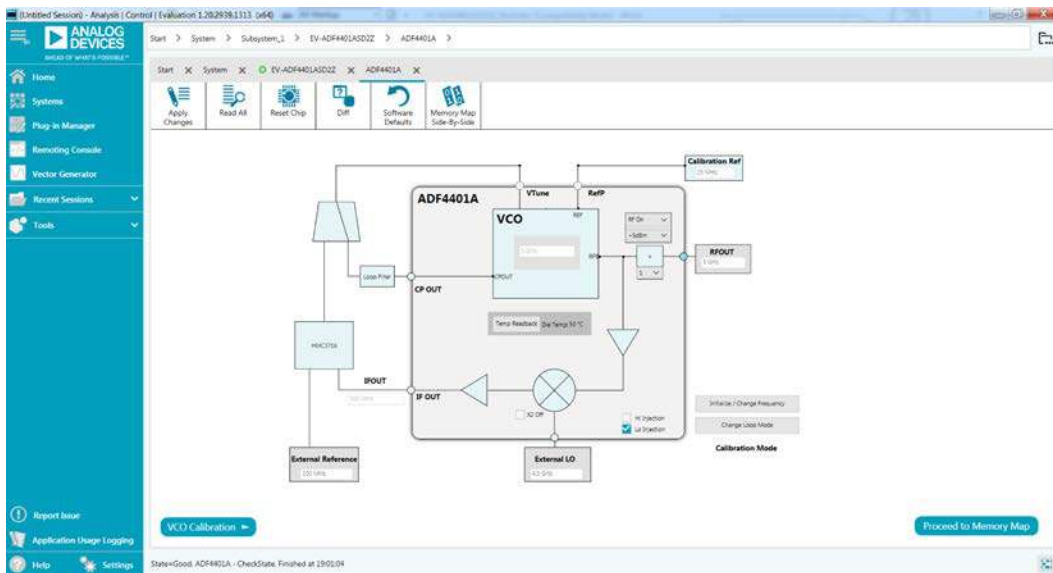
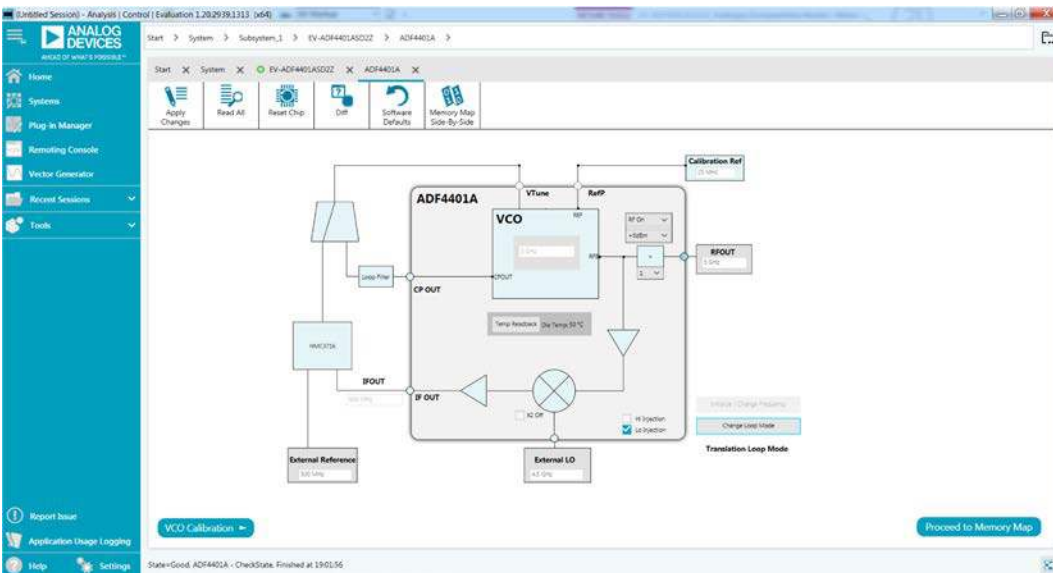

Figure 5. ADF4401A Tab, Main Control Window (Calibration Mode)
Figure 6. ADF4401A Tab, Main Control Window (Translation Loop Mode)
3. Double click the ADF4401A icon in the EV-ADF4401ASD2Z tab to open the main control window in the ADF4401A tab, as shown in Figure 5 and Figure 6.
The main controls in ACE are available in the high level register map shown in Figure 5 and Figure 6. To modify the registers, perform the following steps:
6. When the initialization completes, change the mode from **Calibration Mode** to **Translation Loop Mode** by clicking **Change Loop Mode**. Click this button to return to **Calibration Mode**. The current mode is indicated below the **Change Loop Mode** button, and the switch position is updated accordingly, as shown in Figure 6.
3. Run the ACE software. Set the **Calibration Ref** to 25 MHz, the **External Reference** to 500 MHz, and the **External LO** to 4.5 GHz (see Figure 5).